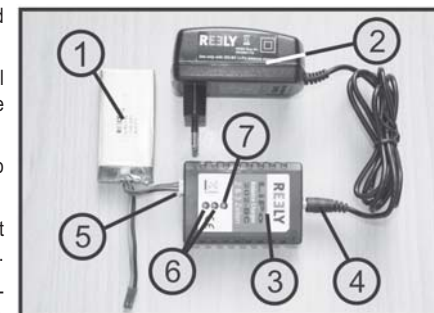

Figure 3
After you have connected the mains adapter to a mains outlet, two of the three charge control LEDs light up red (see figure 3, item 6) and indicate the charge process. The third LED (see figure 3, item 7) lights up green with a dual-cell rechargeable battery and red with a triple-cell rechargeable battery.